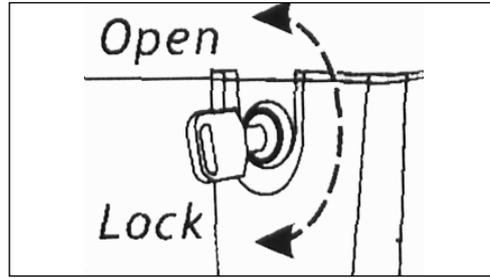

Fig.2
- 4.2. Before moving the tool chest ensure that the drawers are closed and locked (fig.2) to prevent accidental opening.